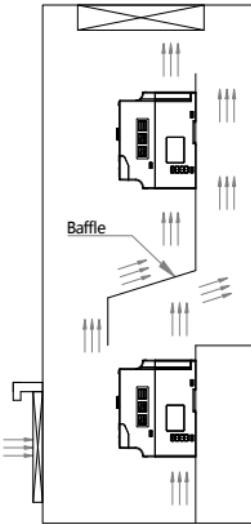

Figure 2-2 Installation Diagram of Multiple Drives
- (3) When multiple drives are installed up and down, the BA/SSffle applied in the middle is shown in Figure 2-2.